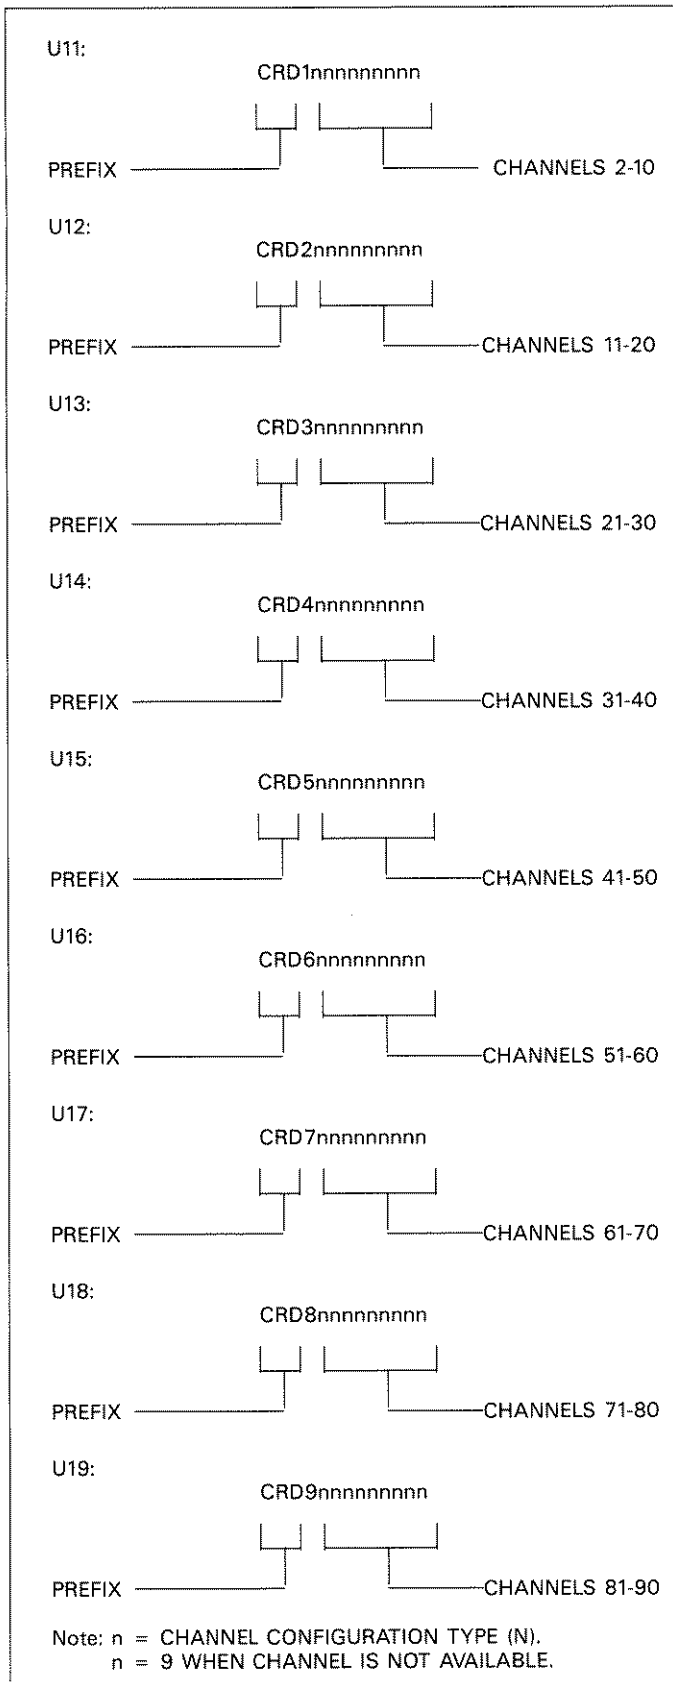

Figure 4-14. U11-U19 Channel Types
The U11 through U19 commands allow access to the channel type of each channel on that scanner card. The format for the channel types that are sent is shown in Figure 4-14. The “n” value for a channel corresponds to the Type (N) command value. “n” values of nine for the channels of a scanner card indicate that the scanner card, along with its channels, are physically unavailable.